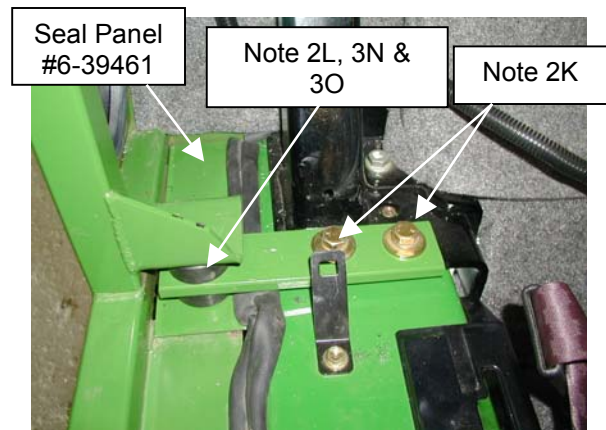

Figure 2K
- K. Remove (2) bolts (on each side) from the roll bar mount. See Figure 2K. Install rear mounting bracket #6-39310 on each side of unit. Secure with;
(4) 12mm x 50mm bolts
- N. Remove cab from shipping stand. Lower cab over roll bar until cab contacts front and rear isolator bushings. See Figure 2K and 3M.
(4) ½-13unc x 3.0" long Bolts
Seal Panel #6-39461 will be secured from the bottom side of the rubber mount with the fasteners noted above. See Figure 2K.